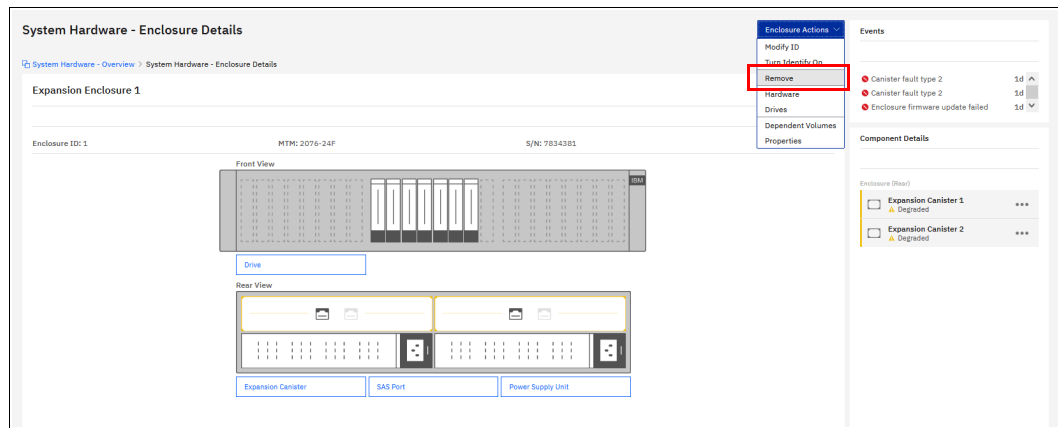

Figure 4-117 Selecting an enclosure for removal
1. In the System window that is available from the **Monitoring** menu, select > next to the enclosure that you want to remove. The Enclosure Details pane opens. You can then click **Enclosure Actions** and select **Remove**, as shown in Figure 4-117.